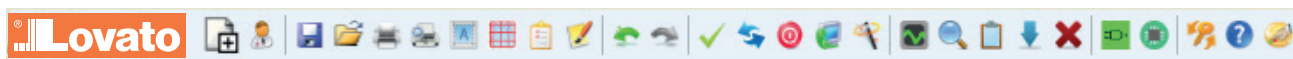
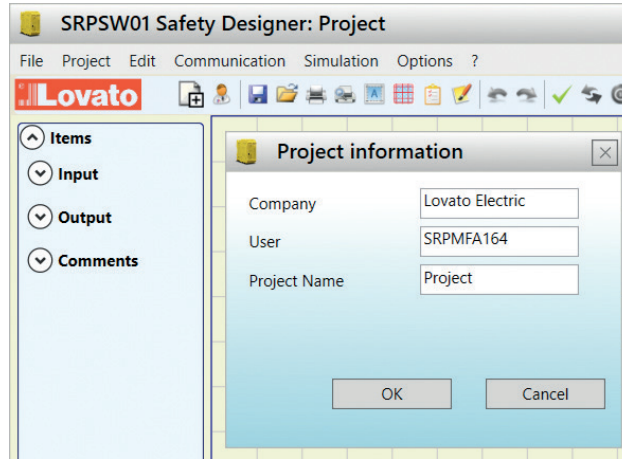

Figure 14
Figure 16
The standard tool bar is shown in Figure 14. The meanings of the icons are listed below:
- Select icon CREATE (Figure 14) from the standard tool bar to start a new project. The user authentication window is displayed (Figure 16).